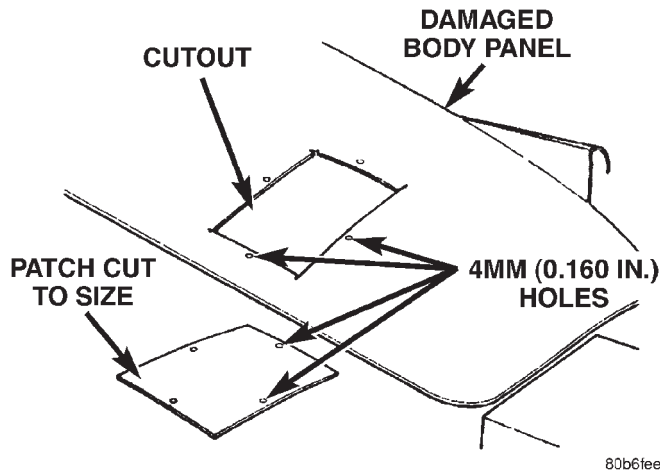
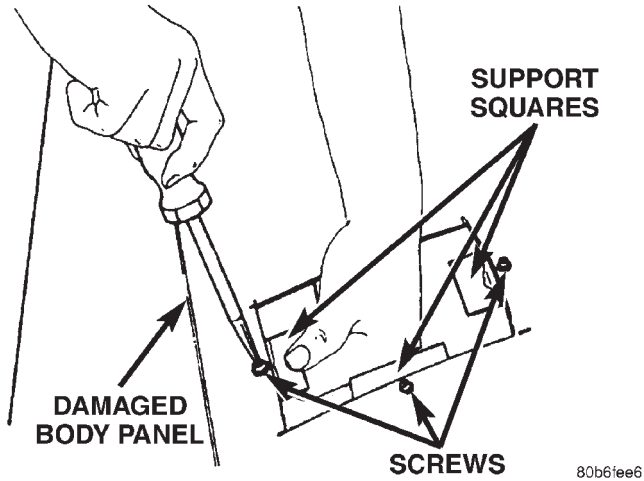

Fig. 8 Damaged Panel Cutout and Patch
Fig. 10 Secure Support Squares To Body Panel
An RTM or SMC panel that has extensive puncture type damage can be repaired by cutting out the damaged material (Fig. 8). Use a suitable reciprocating saw or cut off wheel to remove the section of the SMC or RTM panel that is damaged. The piece cut out can be used as a template to shape the new patch. It is not necessary to have access to the back of the panel to install a patch. Bevel edges of cutout
(5) Drill 4 mm (0.160 in.) holes 13 mm (0.5 in.) in from edge of cutout hole (Fig. 8).
(6) Drill 4 mm (0.160 in.) holes 13 mm (0.5 in.) in from edge of cutout hole (Fig. 8).
(7) Drill 3 mm (0.125 in.) holes in the support squares 13 mm (0.5 in.) from the edge in the center of one side.
(8) Scuff the backside of the body panel around the cutout hole with a scuff pad or sandpaper.
(9) Mix enough epoxy to cover one side of all support squares.
(10) Apply epoxy to the support squares on the half with the hole pre-drilled in it.
(11) Using number 8 sheet metal screws, secure support squares to back side of body panel with epoxy sandwiched between the panel and squares (Fig. 10).